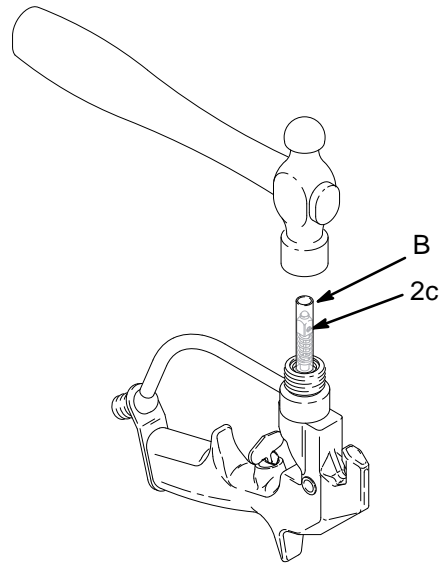

Fig. 9
- Slide the rear of the needle (2c*) into the front of the gun. Slide the tool (B), provided with the repair kit, into the gun, around the needle. Lightly tap the tool with a hammer or lightly press the tool against a flat surface to seat the needle. See Fig. 9. Remove the tool.